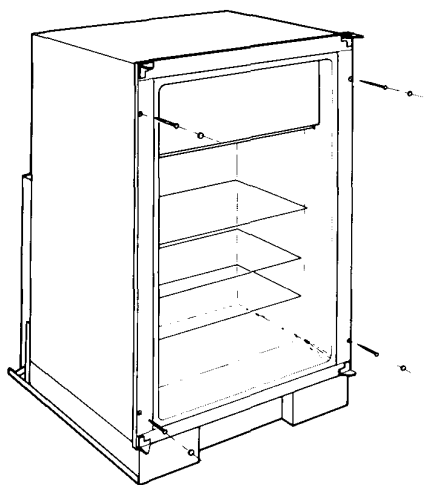

FIGURE 25 — Use holes in cabinet molding for fastening in cut out
5. Set refrigerator in cut-out and secure to vehicle by inserting wood type screws through pre-drilled holes in refrigerator base legs and cabinet molding (**Fig. 25**).